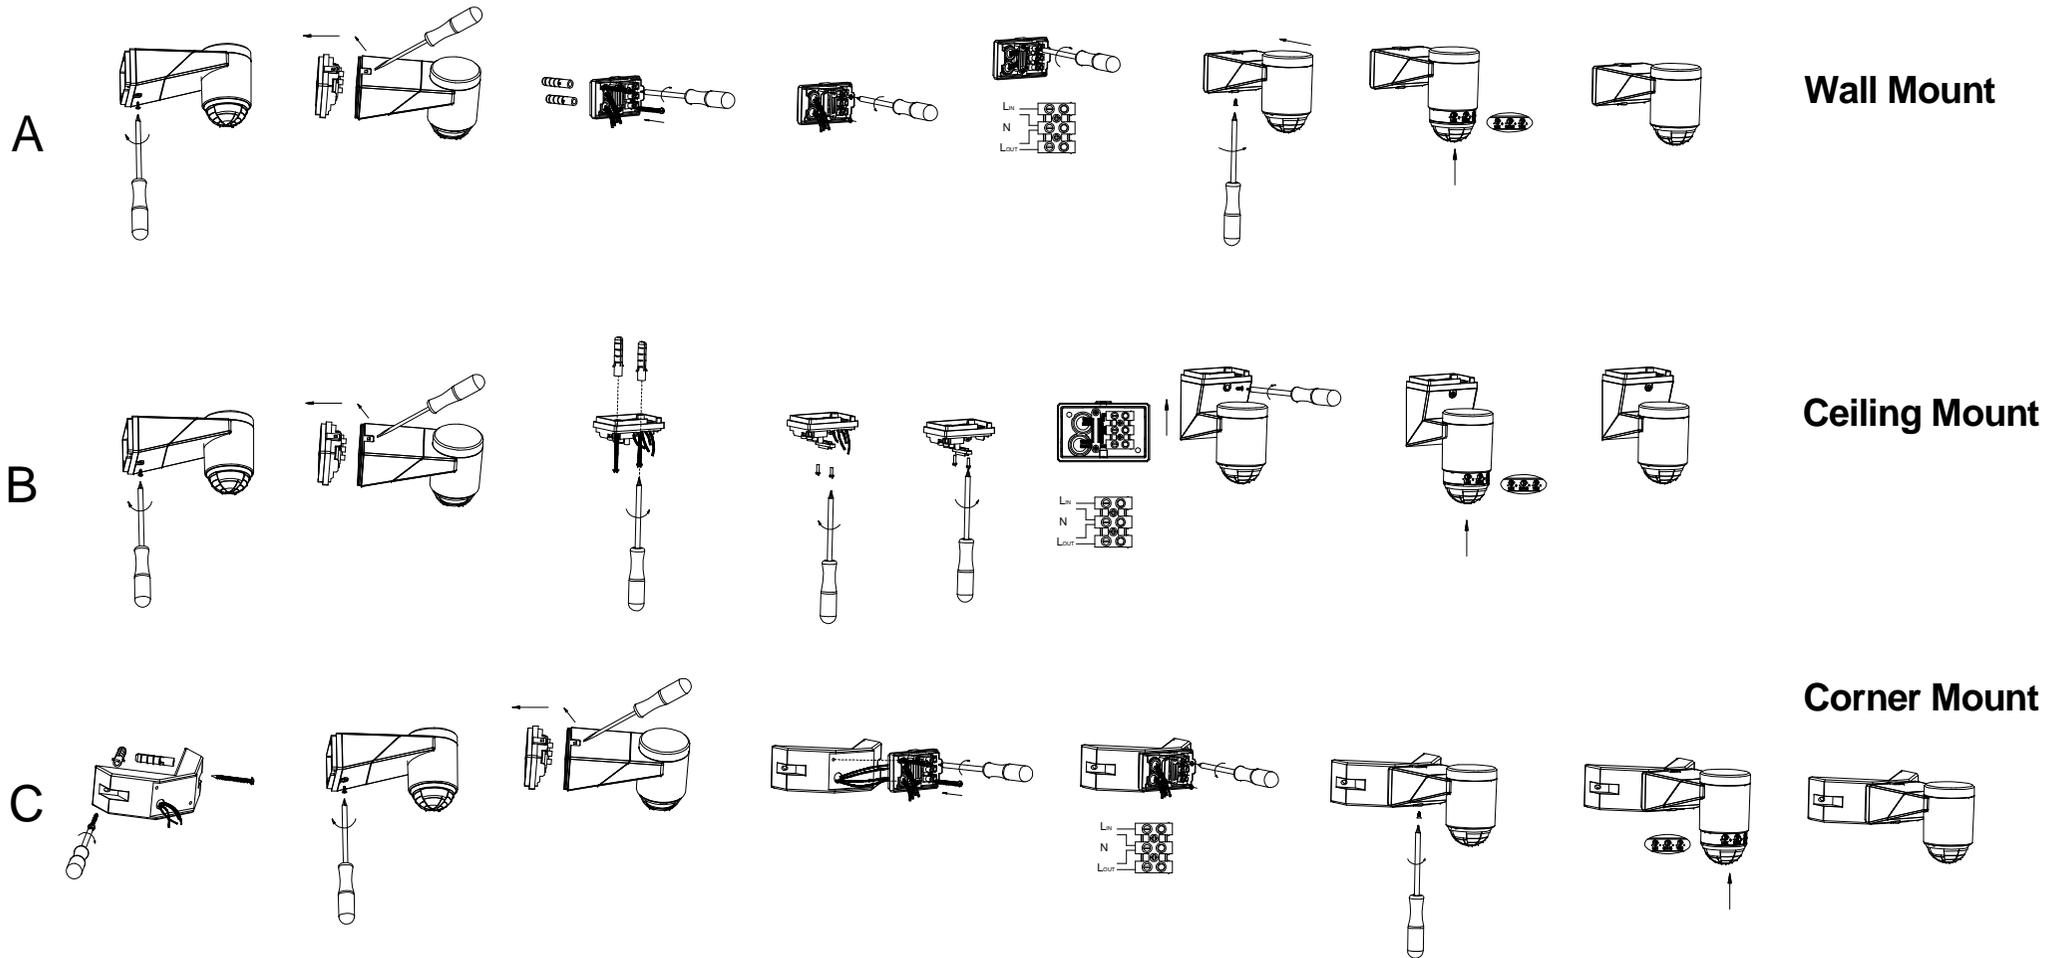

Fig.2 MOUNTING
**Before commencing any electrical work, ensure the mains supply is isolated by switching off and removing the relevant fuse. (See Figure 2 A ,B and C)**
**C. Corner Mounting(Figure 2 C)**